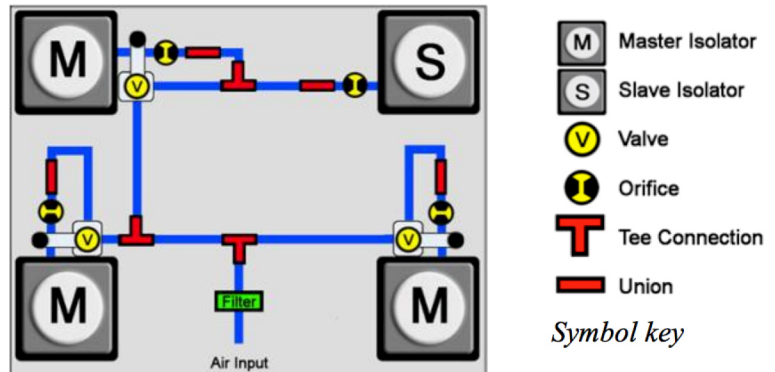
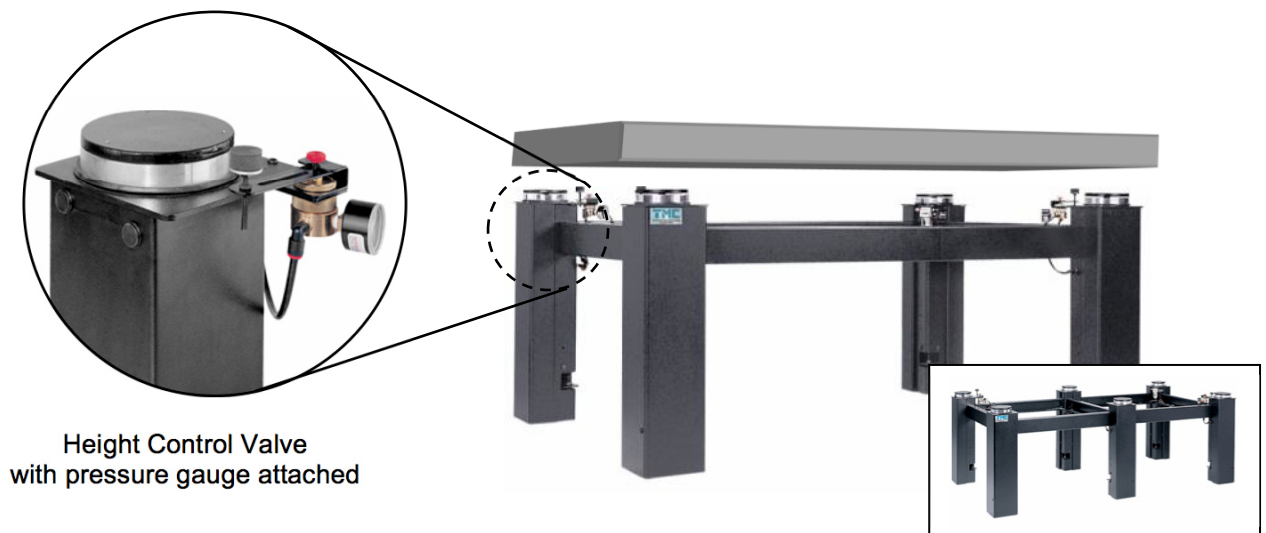

Figure 5, Typical valve schematic for a 4 post isolator system
Figure 8, *Typical 4 and 6 post assembled isolator frames*
Step 5 Locate the three *height control valves* mounted on isolators as typically shown in figure 8 above and referencing figures 5 & 6 earlier.